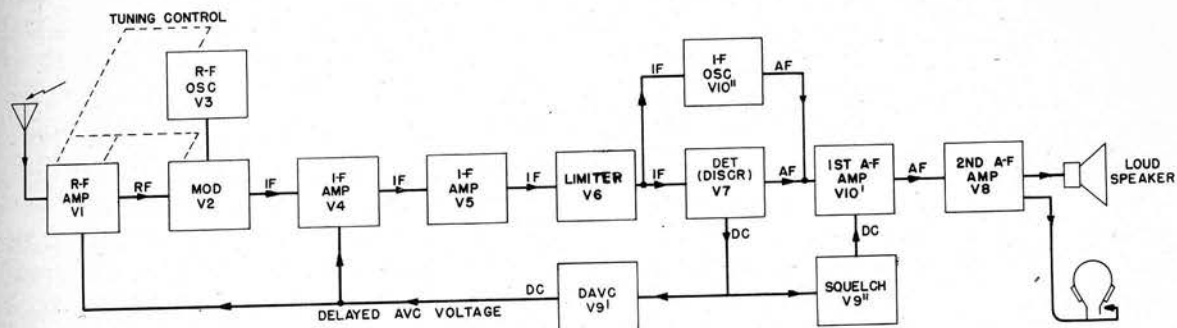

Fig. 24. Radio Receiver BC-683-A: Block Diagram
*a. General Circuits Used.* A block diagram of Radio Receiver BC-683-A is shown in Fig. 24.